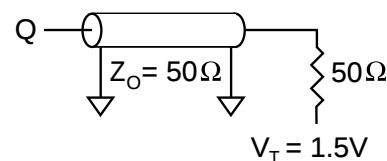
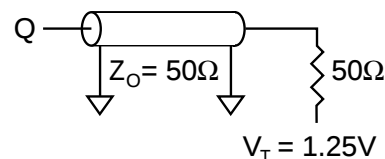

Figure 1
Figure 3
- Test conditions as specified with the output loading shown in Figure 1 for +3.3V I/O ($V_{\text{DDQ}} = +3.3\text{V} \pm 0.165\text{V}$) and Figure 3 for 2.5V I/O ($V_{\text{DDQ}} = +2.5\text{V} \pm 0.125\text{V}$) unless otherwise noted.
Output load	See Figures 1 and 2
Output load	See Figures 3 and 4